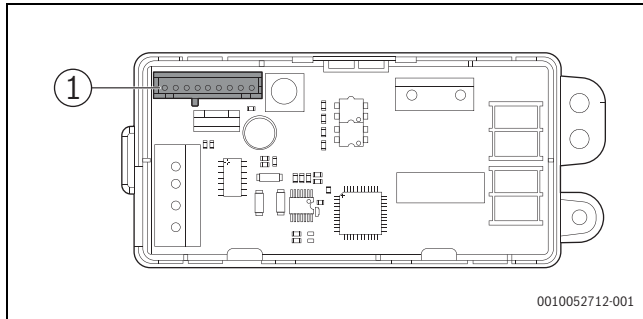

Fig. 1
1. Insert one end of the communication kit cable into the corresponding extend CN1 terminal on the communication adapter board (Fig. 1).